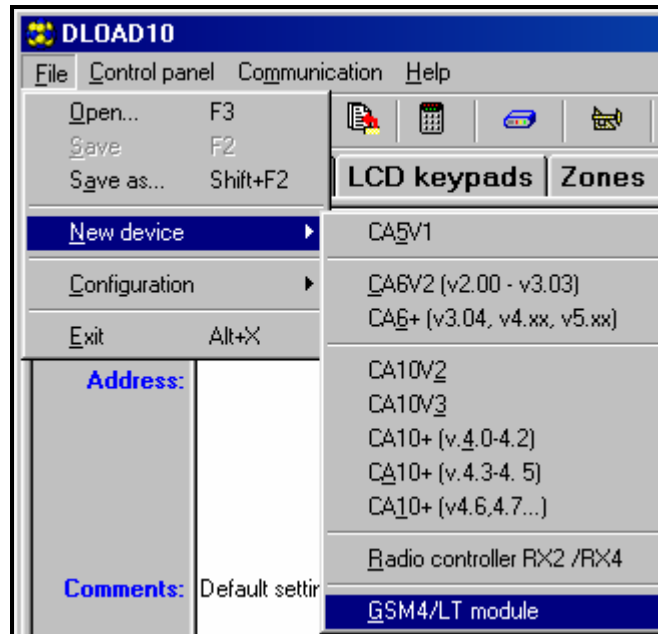

Figure 11.
2. Open the window with module data by selecting **File→New device→GSM4/LT module** in the program menu (see figure 11).
3. Enter the option of module communication settings by clicking on the  icon (or through the **Communication→Configuration** menu) and select the port through which the computer connects with the module RS-232 port (see figure 11).